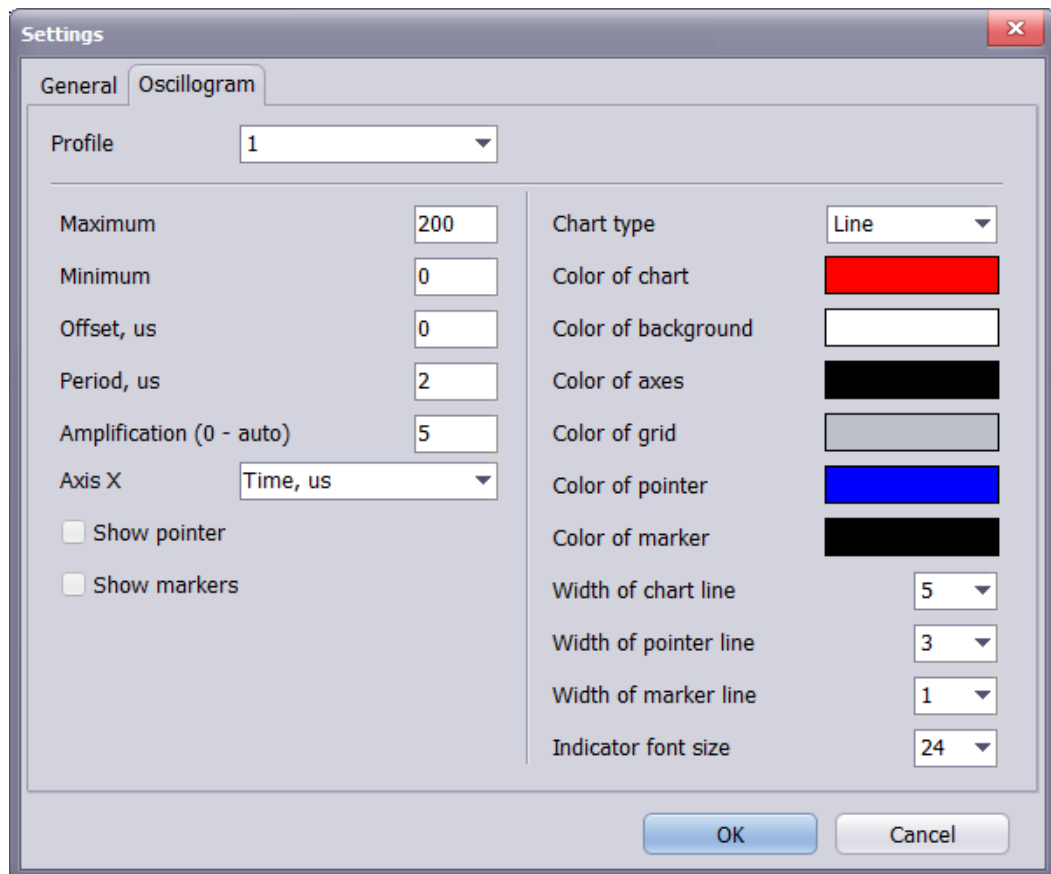

Figure 3.4
3.3.4 On the “Oscilloscope” tab we can make settings of oscilloscope data chart appearance (Fig. 3.4). Some parameters also can be changed from the main Oscilloscope window (block 4 at Fig. 3.5)